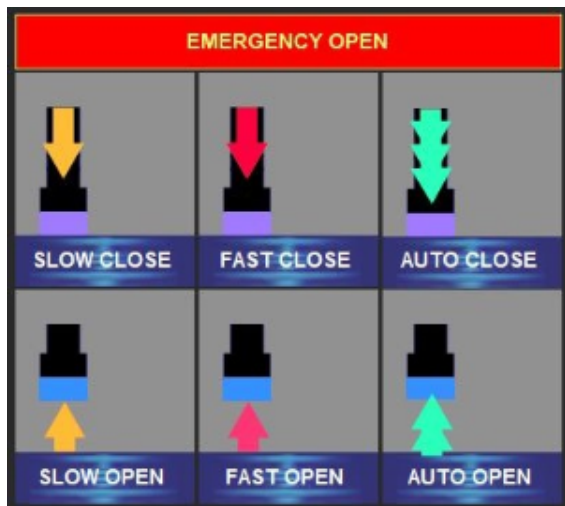

Figure 5. GANTRY motion buttons.
2. Depending on which measurement, insert the bayonets into or close the caliper onto the sample. Click the instrument motion buttons to slowly lower the transducers to the sample (Figure 5). Alternatively, use auto close. Auto close button functions for either the caliper or the bayonets.